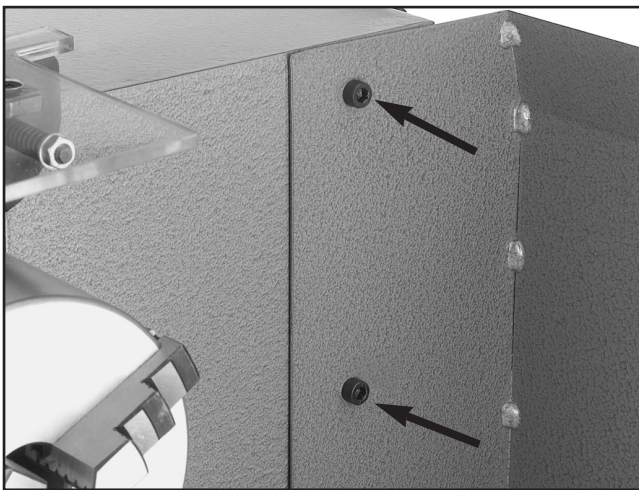
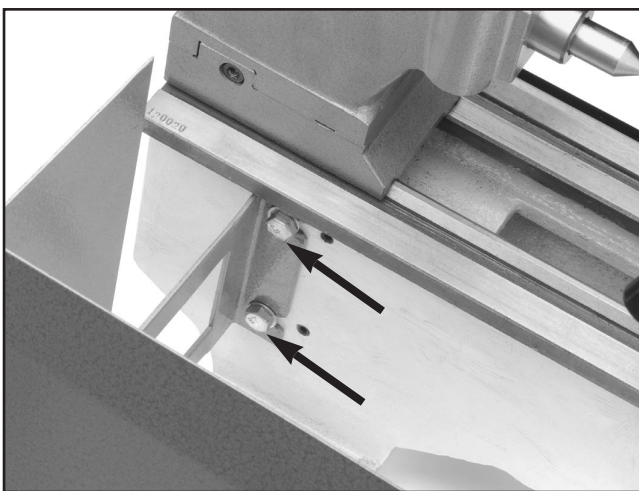

Figure 1. Two cap screws secure the left-hand side of the back splash to the lathe
Figure 2. Two hex bolts/washers secure the right-hand side of the backplash to the lathe.
2. Hold the backplash against the back of the lathe so all of the mounting holes are aligned, and instruct your assistant to secure the back splash with the (2) M6-1 X 10 cap screws as shown in **Figure 1.** and (2) M8-1.25 X15 hex bolts and washers as shown in **Figure 2.**